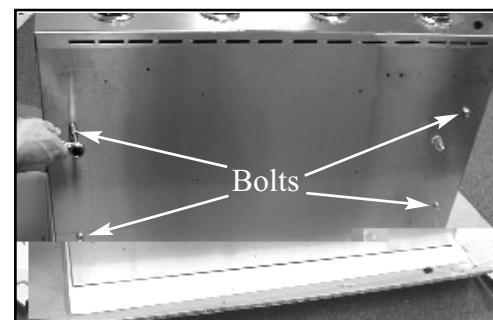

Fig. 3
1. With the grill on its back, (be sure to hold the hood shut when doing this) loosen all 4 bolts on the bottom side of the grill. (See Fig. 3)